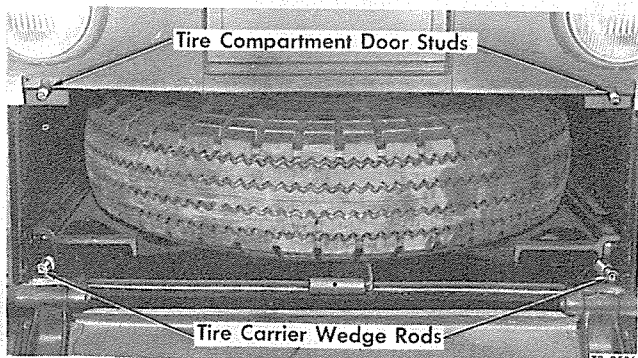

Figure 8—Spare Tire Compartment
1. Remove cap nuts from two tire compartment door studs (fig. 8). Swing bumper and tire
rier and bottom of compartment, then turn bar on edge as shown in figure 8.